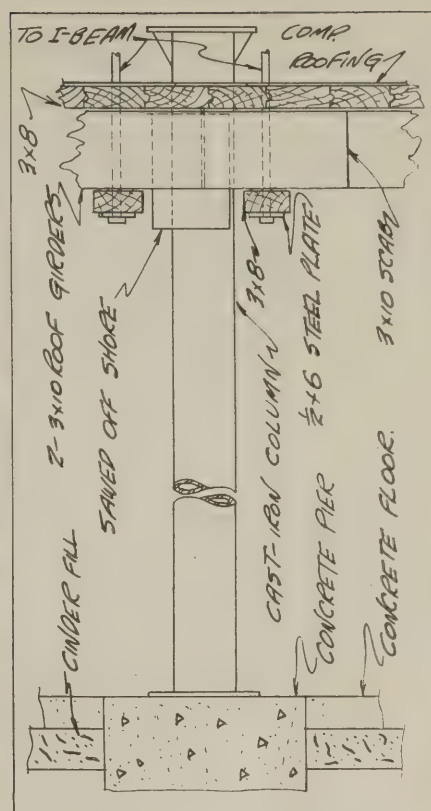

Fig. 5—Details of support with shore removed. Section taken along girders
As construction progressed the steel columns which were used to carry the steel-work in the building were set, and these together with the wood shores used to support the temporary roof made an obstruction which greatly hindered the moving of motor cars on the garage floor. In order to provide a floor which would contain fewer obstacles to the moving of cars, the load of the roof was taken off the wood shores by suspending the roof girders from the permanent steel beams which were now in place, and supported by the permanent steel columns. Details showing how the load was transferred from the shores to the beams are shown in Figs. 5 and 6. As soon as the roof load was thrown on the steel beams above the roof, the temporary shores were sawn off as shown in Fig. 2 and removed, thus leaving the garage floor free except
for a 1/6 pitch roof are made as shown in Fig. 5.
Fig. 5—Various steps in laying a standing seam sheet-metal roof. (A) Lay cleat and plate with edges turned up. (B) Nail cleats to sheathing 8 inches apart. (C) Turn cleat over nails. (D) Lay adjoining plate in place. (E) Turn top edges of plate starting lock. (F) Turn lock again. (G) Completed lock seam
Where the roof pitch is steep, a standing seam and 20x28-inch plates are recommended, and where standing seams are used the roof pitch should be not less than 2 inches per foot. Details for laying standing seam roof are shown in Fig. 5. The seams should be finished about 1 inch high.